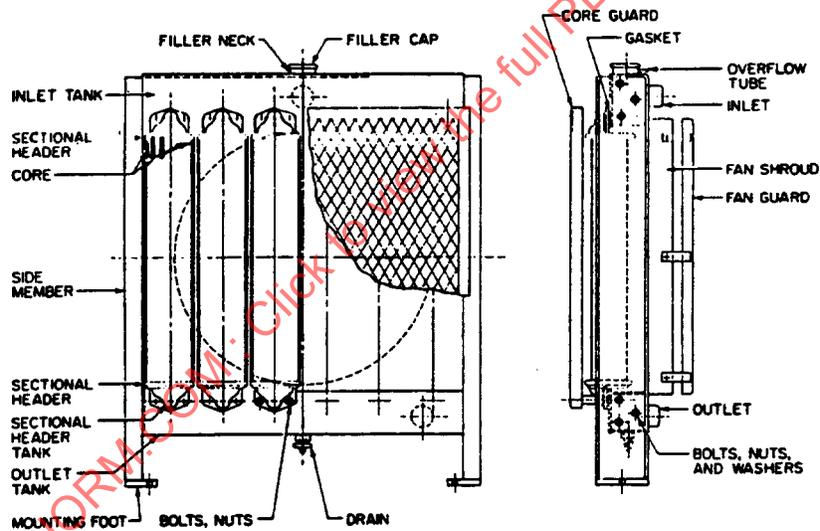

FIGURE 4—CAST OR FABRICATED TYPE (SECTIONAL CORE) RADIATOR
- 3.50 Sectional Core**—A core assembly made up of a number of smaller cores connected to common headers. See Figure 4.